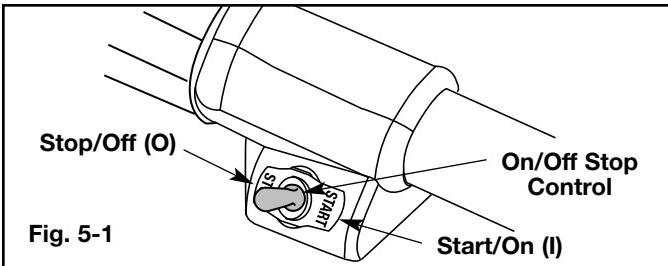

Fig. 5-1
3. Put the On/Off Stop Control in the **START [I]** position (Fig. 5-1).
1. Put the On/Off Stop Control in the **START [I]** position (Fig. 5-1).
2. To stop the engine, put the On/Off Stop Control in the **STOP [O]** position (Fig. 5-1).